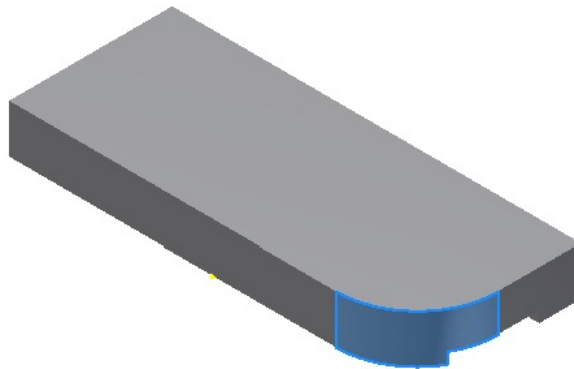

Figure 6-154 Model after creating the fillet feature
- g. Create the fillet on the base feature, refer to Figure 6-154.
1. Create the fillet feature of radius 22, as shown in Figure 6-154.